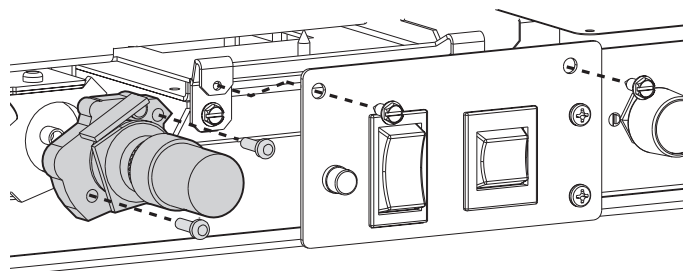

Figure 17. Replacing the regulator.
9. Replace the variable regulator on the gas control valve. Remove the TruStart switch faceplate and move the assembly out of the way to access the regulator. Using a Torx T-20 screwdriver, remove the two screws from the regulator tower on the front of the valve as shown in fig. 17.